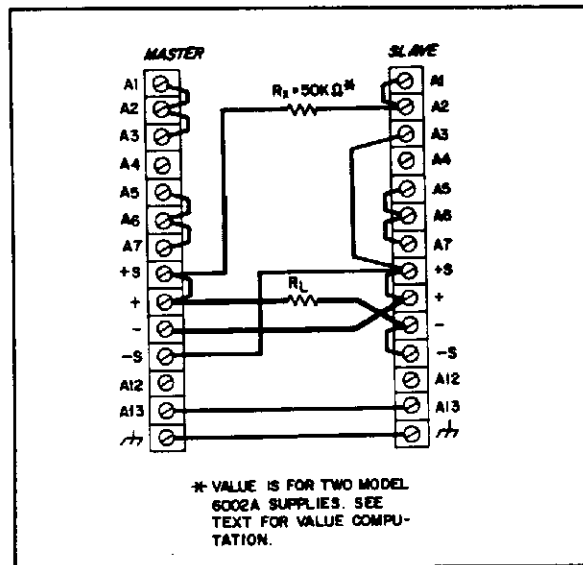

Figure 3-11. Auto-Series Operation of Two Units
**3-56** Auto-series operation provides greater output voltage capability than that available from one supply. A maximum of three units can be used in this configuration. Figures 3-11 and 3-12 show the rear panel and circuit board interconnections required to operate two or three supplies in auto-series. This mode of operation allows the series-connected supplies to be simultaneously programmed by the voltage and current controls of a master supply. The master supply must always be the one at the positive end of the series combination. The output voltage of each slave supply varies in direct proportion to that of the master and the ratio of each slave's output voltage to the master's is established by the settings of the slave supplies' voltage controls. The resulting combination of two or three supplies behaves as if it were a single constant-voltage/constant-current supply. The supply with the lowest current setting limits the maximum output current of the combination. Mixed model numbers can be employed in auto-series combination, provided that each slave is capable of auto-series operation. Any well-regulated, variable output supply can be used as the master.
**3-62** **Overvoltage Protection in Auto-Series.** The interconnections shown in Figures 3-11 and 3-12 between the external crowbar trigger terminals on the master and on the slave(s) must be made to permit the overvoltage crowbar in any one of the interconnected supplies to fire the SCRs in all of them if an overvoltage condition occurs. Be sure to connect them with the polarity shown. Set the overvoltage potentiometer in each supply so that it trips at a point slightly above the voltage that supply will contribute.